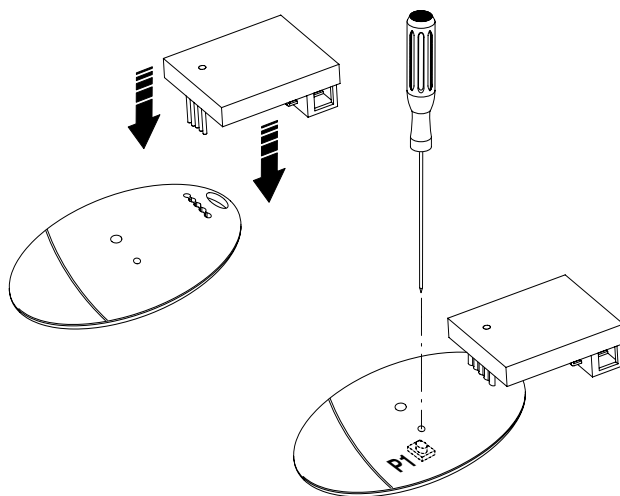

Fig. 20
- Insert the standard key into its appropriate seat (fig. 20) and rotate it anticlockwise (90°), then rotate the release knob clockwise along its entire stroke. This way the pinion is made to idle, and therefore allows the gate to be opened by hand.
In the case where the release knob is supplied with a personalised key (fig. 20), proceed as follows:
- Hold the release knob and rotate it clockwise (fig. 20) until it stops. This way the pinion is made to idle, and therefore allows the gate to be opened by hand.